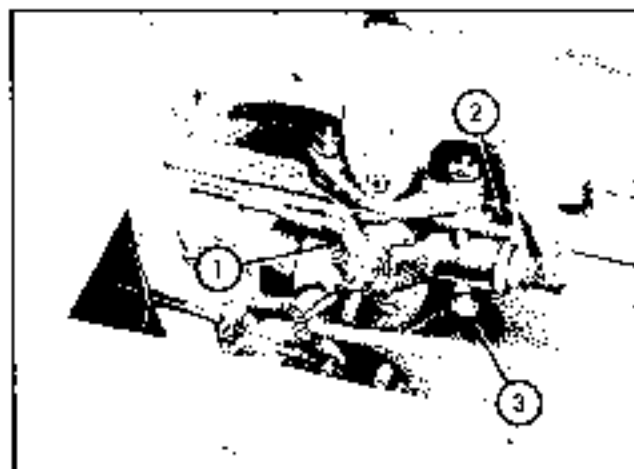

Fig. 1-13. LP Gas Carburetor
- Adjust throttle stop screw (1, figure 1-13) so it just touches stop pin, then, turn in screw one additional turn to assure that throttle disc will be held slightly open. Accelerator pedal and linkage must be at absolute idle position when adjusting throttle stop screw.
b. Turn in idle adjusting screw (2, figure 1-13) until it just seats. Then back out screw three complete turns.
c. Turn in main load screw (3, figure 1-13) until it just seats. Then back out screw three complete turns.
NOTE: FIG. 1-13 SHOWS THE AIR CLEANER REMOVED FOR ILLUSTRATIVE PURPOSES. KEEP THE AIR CLEANER INSTALLED.